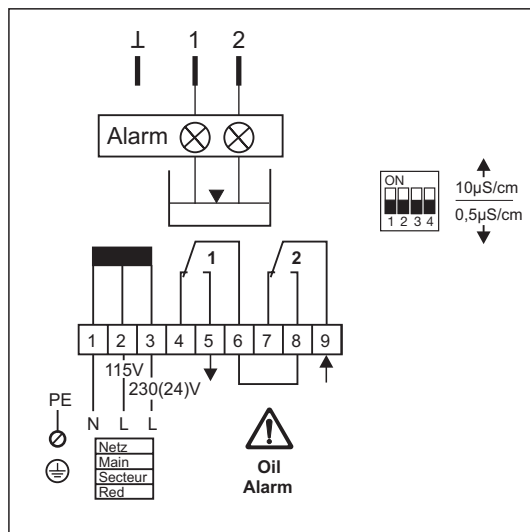

Fig. 8 Relays shown in power-off (alarm) position, LEDs 1 and 2 not illuminated!
2. Please check that the oil detector & alarm is wired in accordance with the wiring diagram (**Fig. 8** page 16) and switch on mains voltage.